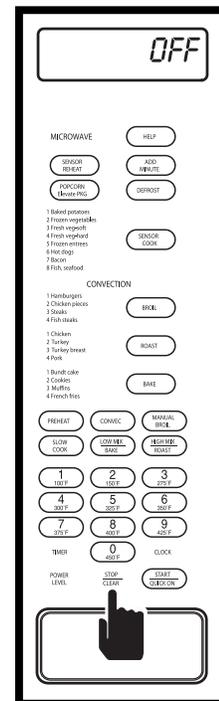

Figure 3-64.
5. When the STOP/CLEAR key is pressed at this time, the display will flash "LOCK - OFF" (See Figure 3-64) and then show time of day.